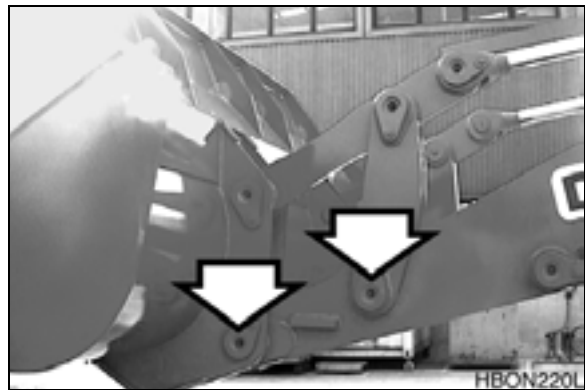

Figure 41
- A: Bucket hinge pins, 2 locations on each side of bucket. Arm link connecting pins, 2 locations. (Figure 41)